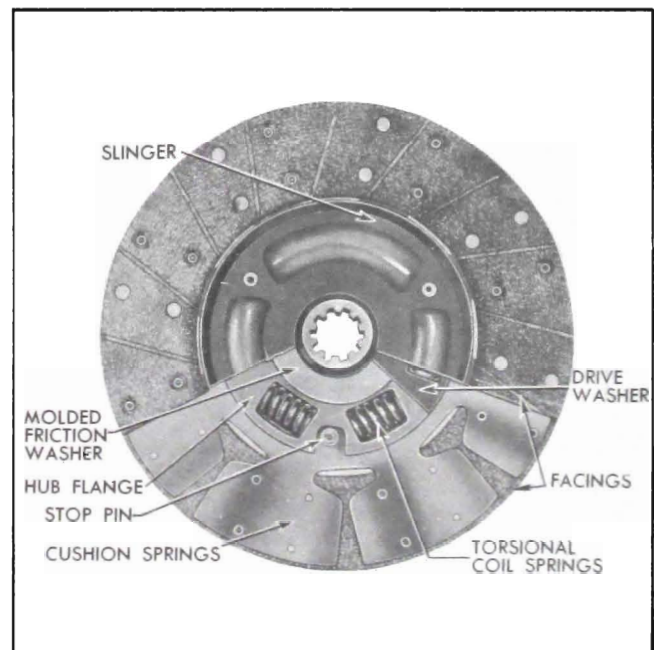

Figure 4-2—Driven Plate—Transmission Side
The outer area of the driven plate is divided into segments which are formed in low waves to provide springs between the plate facings and thereby cushion engagement of the clutch. A woven facing, grooved to give quick release, is riveted to each side of every segment of plate. When the clutch is fully released, the waved segments cause the facings to spread approximately .050" and the movement of pressure plate provides approximately .030" clearance to assure full release of driven plate. See figure 4-2.
3. *Clutch Driven Plate.* Inspect driven plate for condition of facings, loose rivets, broken or very loose torsional springs, and flattened cushion springs. See figure 4-2.